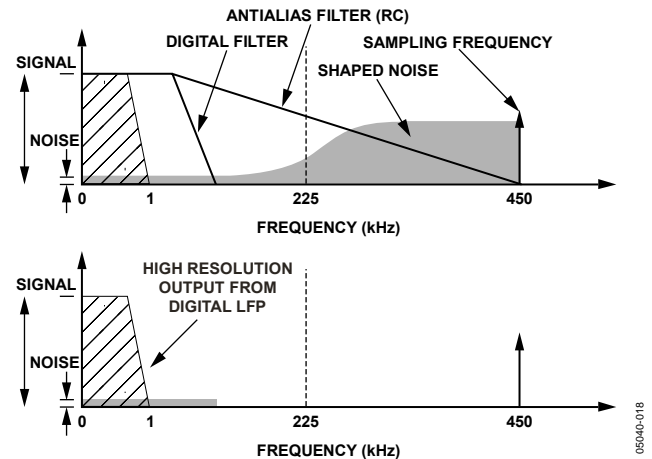
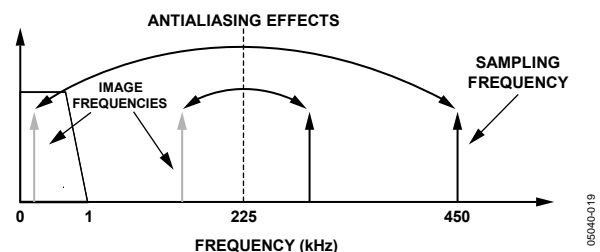

Figure 20. Noise Reduction due to Oversampling and Noise Shaping in the Analog Modulator
Figure 21. ADC and Signal Processing in Current Channel or Voltage Channel
The  $\Sigma$ - $\Delta$  converter uses two techniques to achieve high resolution from what is essentially a 1-bit conversion technique. The first is oversampling, which means that the signal is sampled at a rate (frequency) that is many times higher than the bandwidth of interest. For example, the sampling rate in the ADE7761A is CLKIN (450 kHz) and the band of interest is 40 Hz to 1 kHz. Oversampling has the effect of spreading the quantization noise (noise due to sampling) over a wider bandwidth. With the noise spread more thinly over a wider bandwidth, the quantization noise in the band of interest is lowered (see Figure 20).
However, oversampling alone is not an efficient enough method to improve the signal-to-noise ratio (SNR) in the band of interest. For example, an oversampling ratio of 4 is required just to increase the SNR by only 6 dB (1 bit). To keep the oversampling ratio at a reasonable level, it is possible to shape the quantization noise so that the majority of the noise lies at the higher frequencies. This is what happens in the  $\Sigma$ - $\Delta$  modulator; the noise is shaped by the integrator, which has a high-pass type response for the quantization noise. The result is that most of the noise is at the higher frequencies, where it can be removed by the digital low-pass filter. This noise shaping is also shown in Figure 20.
Figure 20 also shows an analog low-pass filter (RC) on input to the modulator. This filter is present to prevent aliasing. Aliasing is an artifact of all sampled systems, which means that frequency components in the input signal to the ADC that are higher than half the sampling rate of the ADC appear in the sampled signal frequency below half the sampling rate. Figure 21 illustrates the effect.
In Figure 21, frequency components (arrows shown in black) above half the sampling frequency (also known as the Nyquist frequency), that is, 225 kHz, are imaged or folded back down below 225 kHz (arrows shown in gray). This happens with all ADCs no matter what the architecture. In the example shown, only frequencies near the sampling frequency (450 kHz) move into the band of interest for metering (40 Hz to 1 kHz). This fact allows the use of a very simple low-pass filter to attenuate these frequencies (near 250 kHz) and thereby prevent distortion in the band of interest. A simple RC filter (single pole) with a corner frequency of 10 kHz produces an attenuation of approximately 33 dB at 450 kHz (see Figure 21). This is sufficient to eliminate the effects of aliasing.